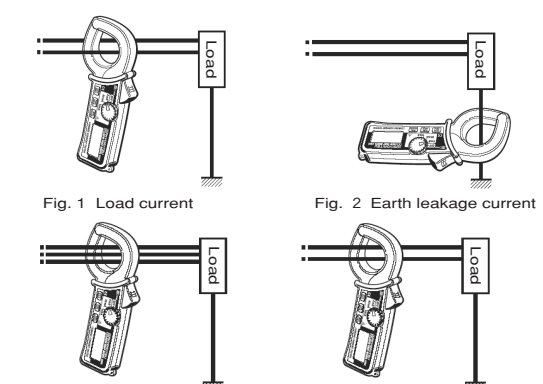

Fig. 3 Measuring out of balance leakage current
(3) Measuring out of balance leakage current (See Fig. 3): Clamp onto all conductors except a grounded wire.